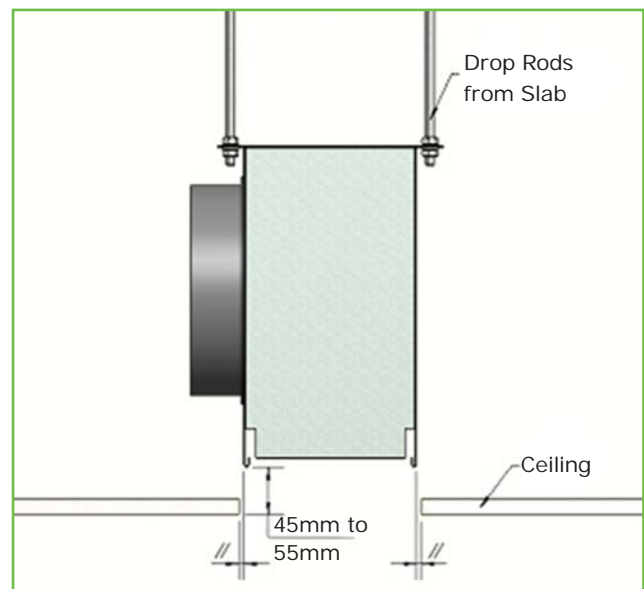

Figure 1- Plenum installation detail
- 3- Check that the plenum box is level and aligned with the ceiling opening, ensuring that the distance from the bottom of the hem to the ceiling face is within the 45 to 55mm range (**Figure 1**). When this has been achieved, tighten the locknuts to secure the plenum position.